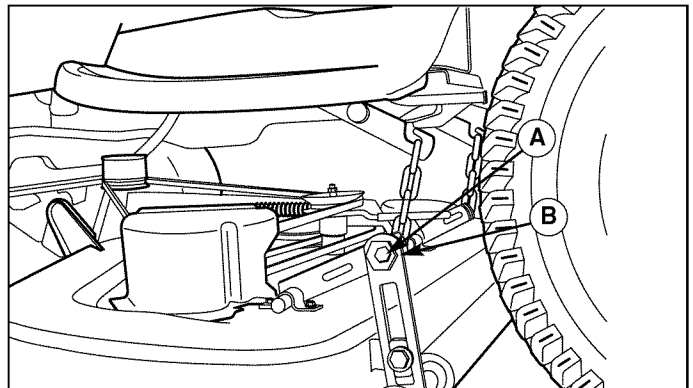

Figure 51. Leveling The Mower Side-to-Side
5. See Figure 51. Loosen the outside nut (A). Turn the eccentric nut (B) to raise or lower left-hand side of mower. When mower is level, hold the eccentric nut while tightening the outside nut.